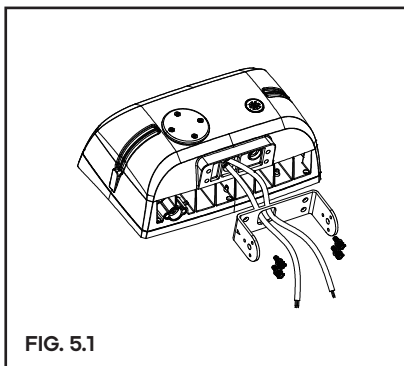

FIG. 5.1
Step 1: Take the lamp out of package; (figure 5.1)